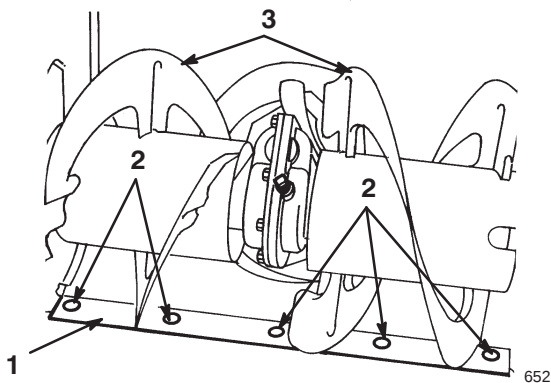

Figure 20
- Support the *auger blades* so that they are 1/8 inch (3 millimeters) off the ground (Fig. 20).
- To adjust the scraper, loosen the five mounting screws (Fig. 20), level the scraper, and tighten the mounting screws.